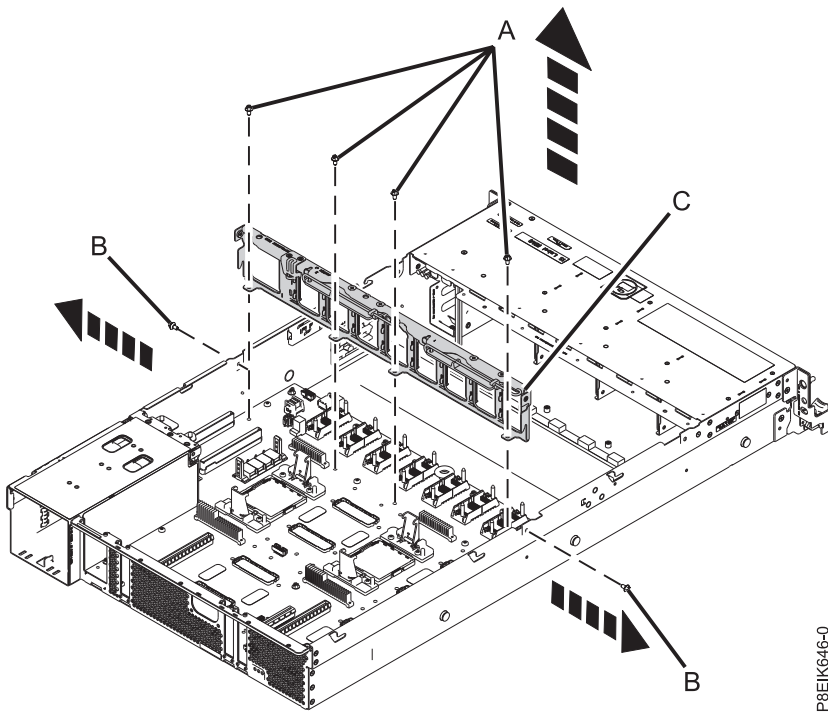

Figure 143. Remove the middle support and screw locations
14. Remove the middle support (C). See Figure 143 on page 124.
- a. Remove the screw (B) from each side of the system.
- b. Remove the four screws (A) that connect the middle support to the system backplane.
- c. Lift out the middle support (C).